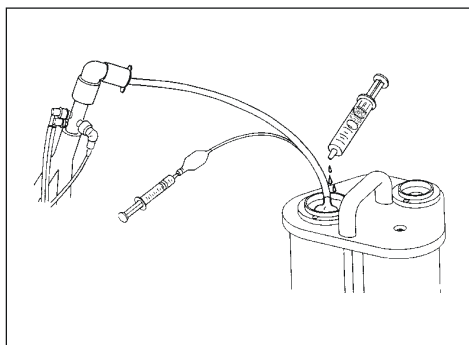

FIGURE 5-19
7. Connect the spirometry sensor to the breathing circuit of the anesthesia machine and let the ventilator run for 2 – 3 minutes (see FIGURE 5-19).